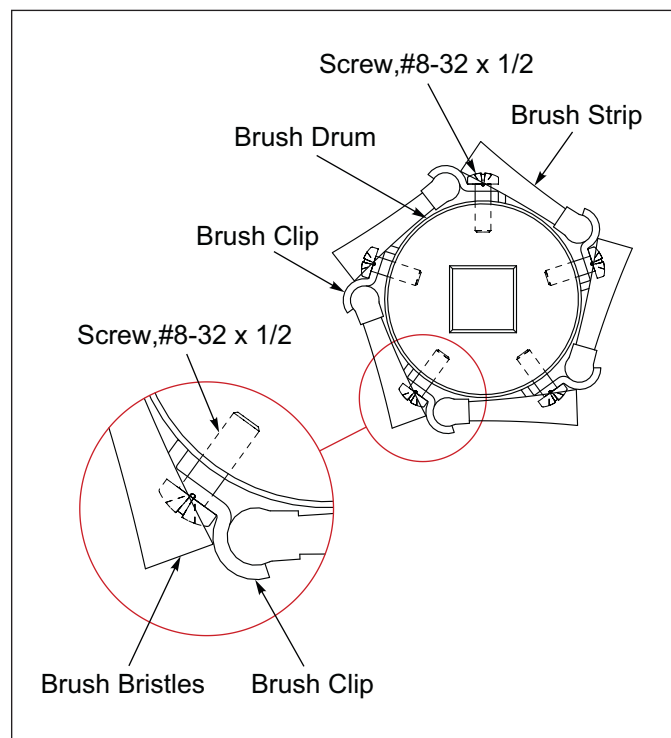

Figure 3-9: 5-Strip Brush Agitators
- 5-Strip Brush Agitators are typically used for Fluffy Native Seeds. 5-Strip Brush Agitators should never be used with small seed varieties such as Clover, Alfalfa, or Timothy. Small seeds can cause the brushes to swell and pull out of Brush Clips. See Figure 3-9.